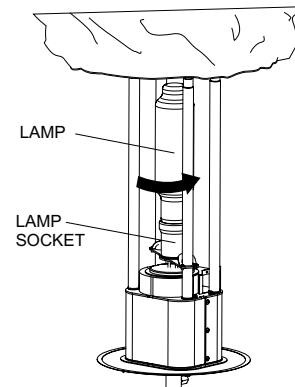

Figure 29. Removing Lamp
5. Remove the lamp from the lamp socket by turning lamp counterclockwise. See Figure 29.